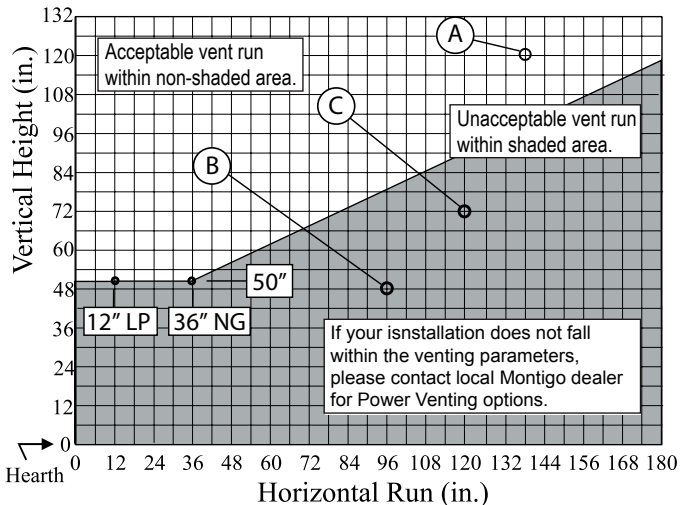

Figure 11. HL42DF\*-ST Top Vent Venting Graph for wall mounted terminations.
- Once the proposed venting layout has been determined refer to Figure 11 or 12 to ensure the layout is acceptable.
- Venting runs must fall within the limits set by the venting graph, see Figure 11.
Measure the vertical height from the fireplace hearth to the centre of the termination and the horizontal run from the fireplace flue collar to the wall flange of the termination. Plot on the Venting Graph Figure 11 with an 'X'.
Figure 11a. Top Vented, wall mounted installation with one 90° bend. The vent run must comply with Venting Graph for Top vent, wall mounted terminations, Figure 11.